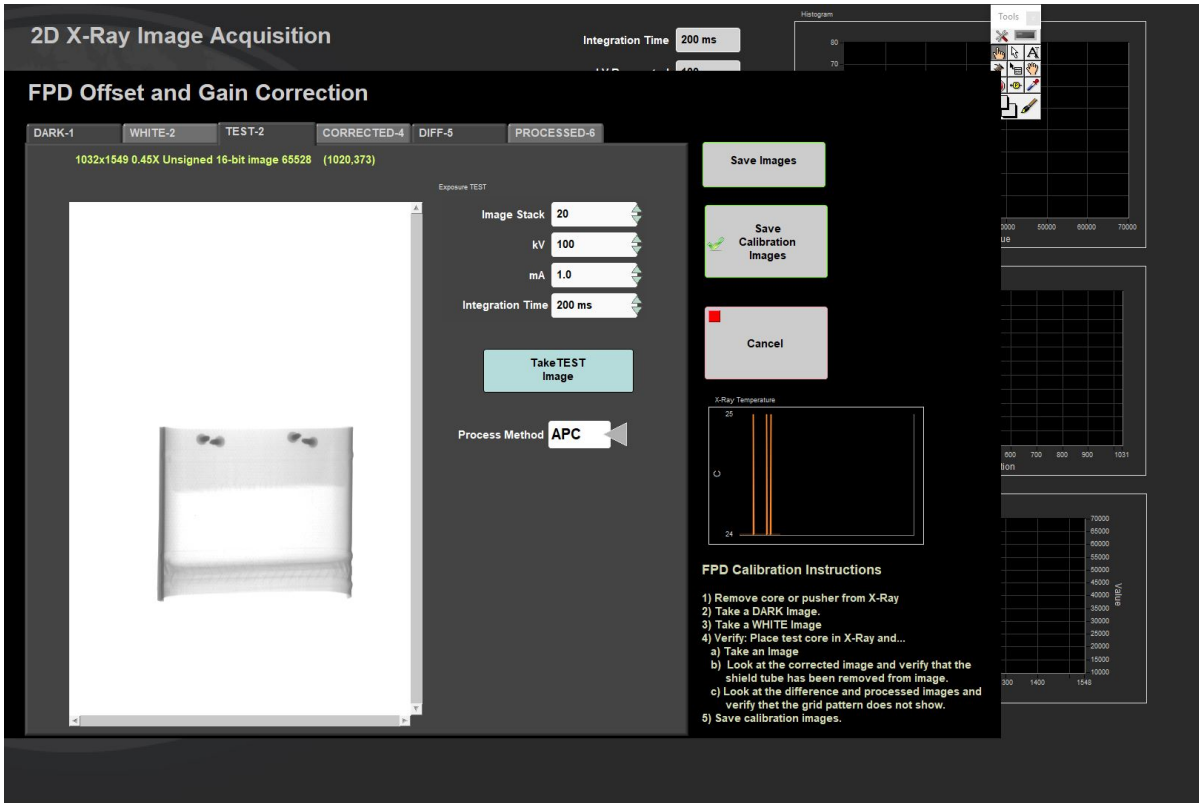

Figure 10. Test Image Tab after selecting take test image
1. Select tab **TEST-2** (Figure 10)
3. Once the exposure is completed, you'll be returned to the **FPD Calibration Utility** window (Figure 10).